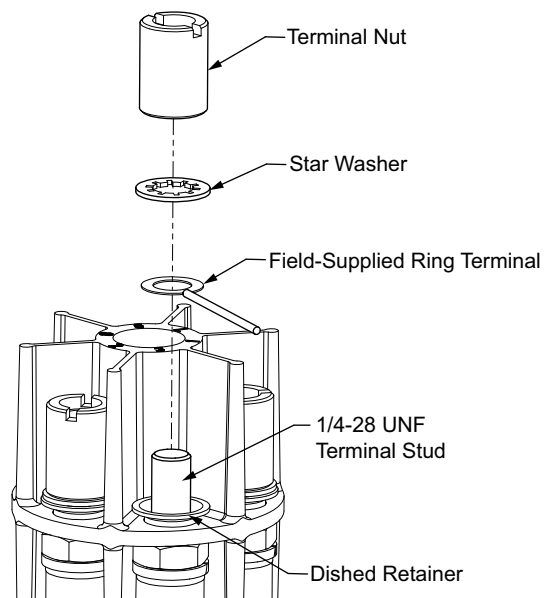

Fig. 4 — Terminal Plate Components
2. With screwdriver, remove terminal nut and star washer only on terminals needed to make connections applicable to installed overload system. Leave dished retainer in place. (See Fig. 4.)
3. Apply all applicable power and control circuit leads to the terminal studs per associated overload wiring diagram. Reassemble star washers and extended slotted terminal nuts. (See Fig. 4.)